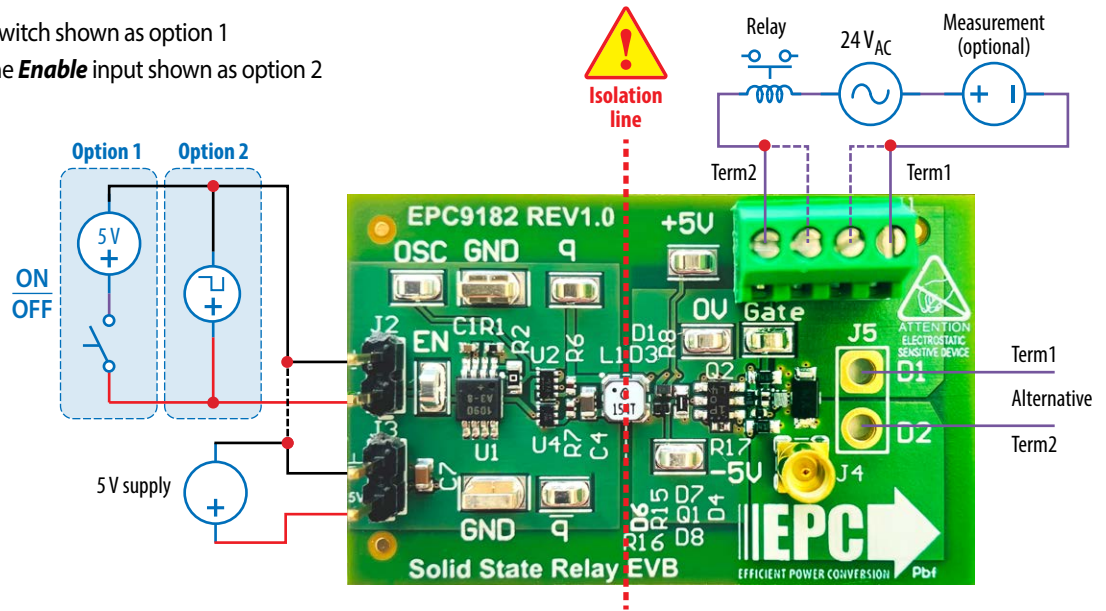

Figure 7: Power and signal connections to the EPC9182 demonstration board
Figure 7 shows the power and logic connections to the EPC9182 demonstration board. There are two options for the **Enable** signal:
1. With power off, connect an AC source (24 V_{AC}) and the mechanical relay (load) in series with the power terminals (D1 and D2), as shown in Figure 7.
2. With power off, connect either a 5 V source in series with a switch (Option 1 of figure 7) **or** a 5 V source with On/Off switch (Option 2 of figure 7) to the **Enable** connector (J2) (**note polarity**).